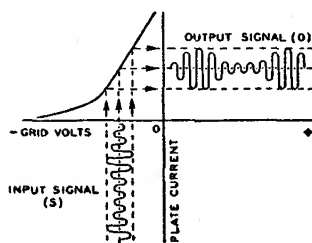

Fig. 14—Current characteristics of class A amplifier.
Fig. 14 gives a graphical illustration of this method of amplification and shows, by means of the grid-voltage vs. plate-current characteristics curve, the effect of an input signal (S) applied to the grid of a tube. The output signal (O)